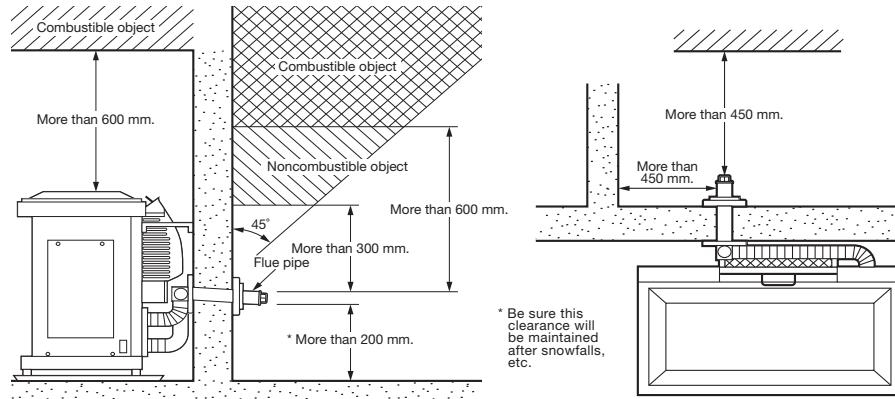

Fig. 2
2. Ensure the outdoor flue discharge area is clear of anything that might be affected by the hot flue exhaust gas. (See Fig. 2 and 3.)
- The Flue Pipe (as in Fig. 2), is for wall thickness from 130 mm to 320 mm.